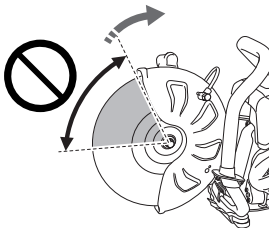
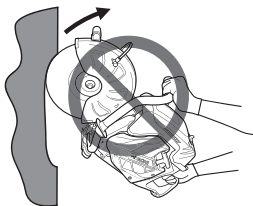

Fig. 2
Fig. 3
- Kickback occurs when the upper angle of the cut-off wheel is used or touches an object when the cut-off wheel is running. Pay special attention not to touch the upper angle of the cut-off wheel to any object. (Fig. 2, Fig. 3)